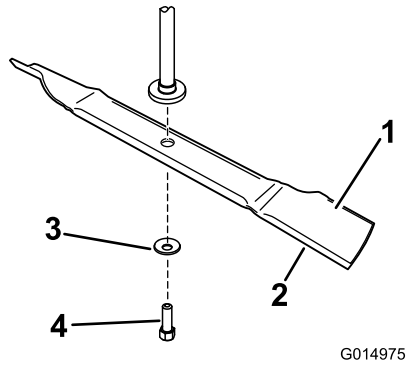

Figure 3
1. Install the blade onto the spindle shaft (Figure 3).
2. Install the curved washer (cupped side toward the blade) and the blade bolt (Figure 3). **Do not install a blade stiffener.**